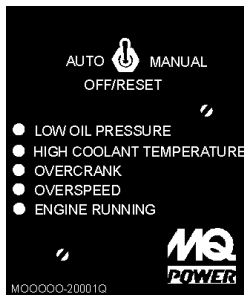

Figure 59. MPEC Engine Running Status LED (OFF)
5. Verify that the "Engine Running" status LED (Figure 59) on the Microprocessor Engine Control Module (MPEC) display is "OFF" (not lit).